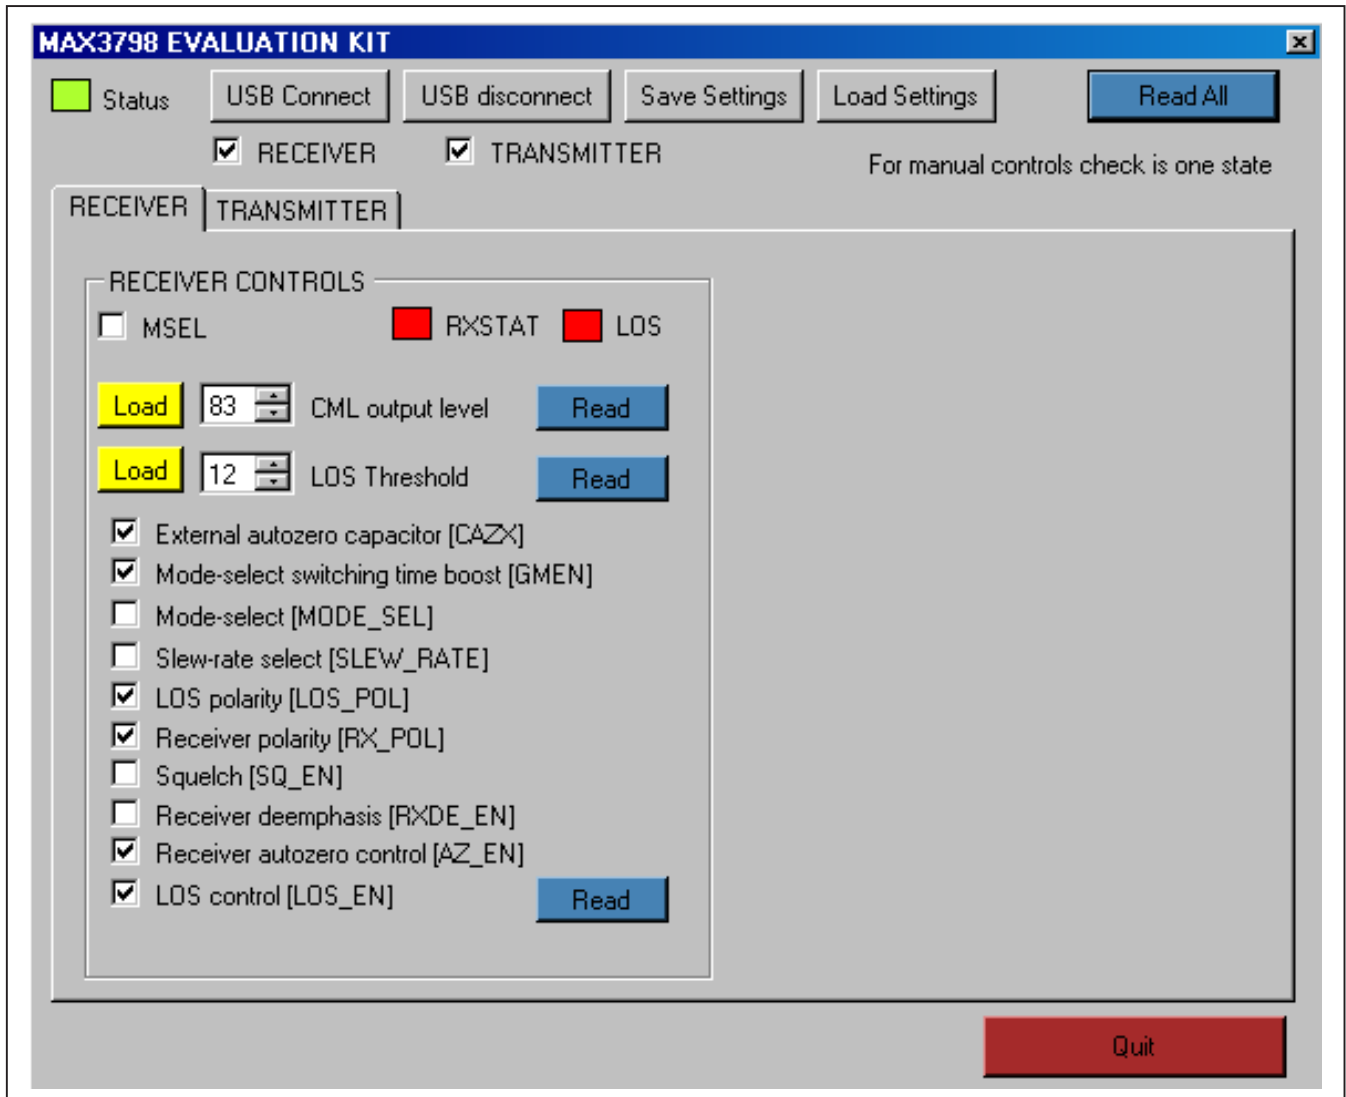
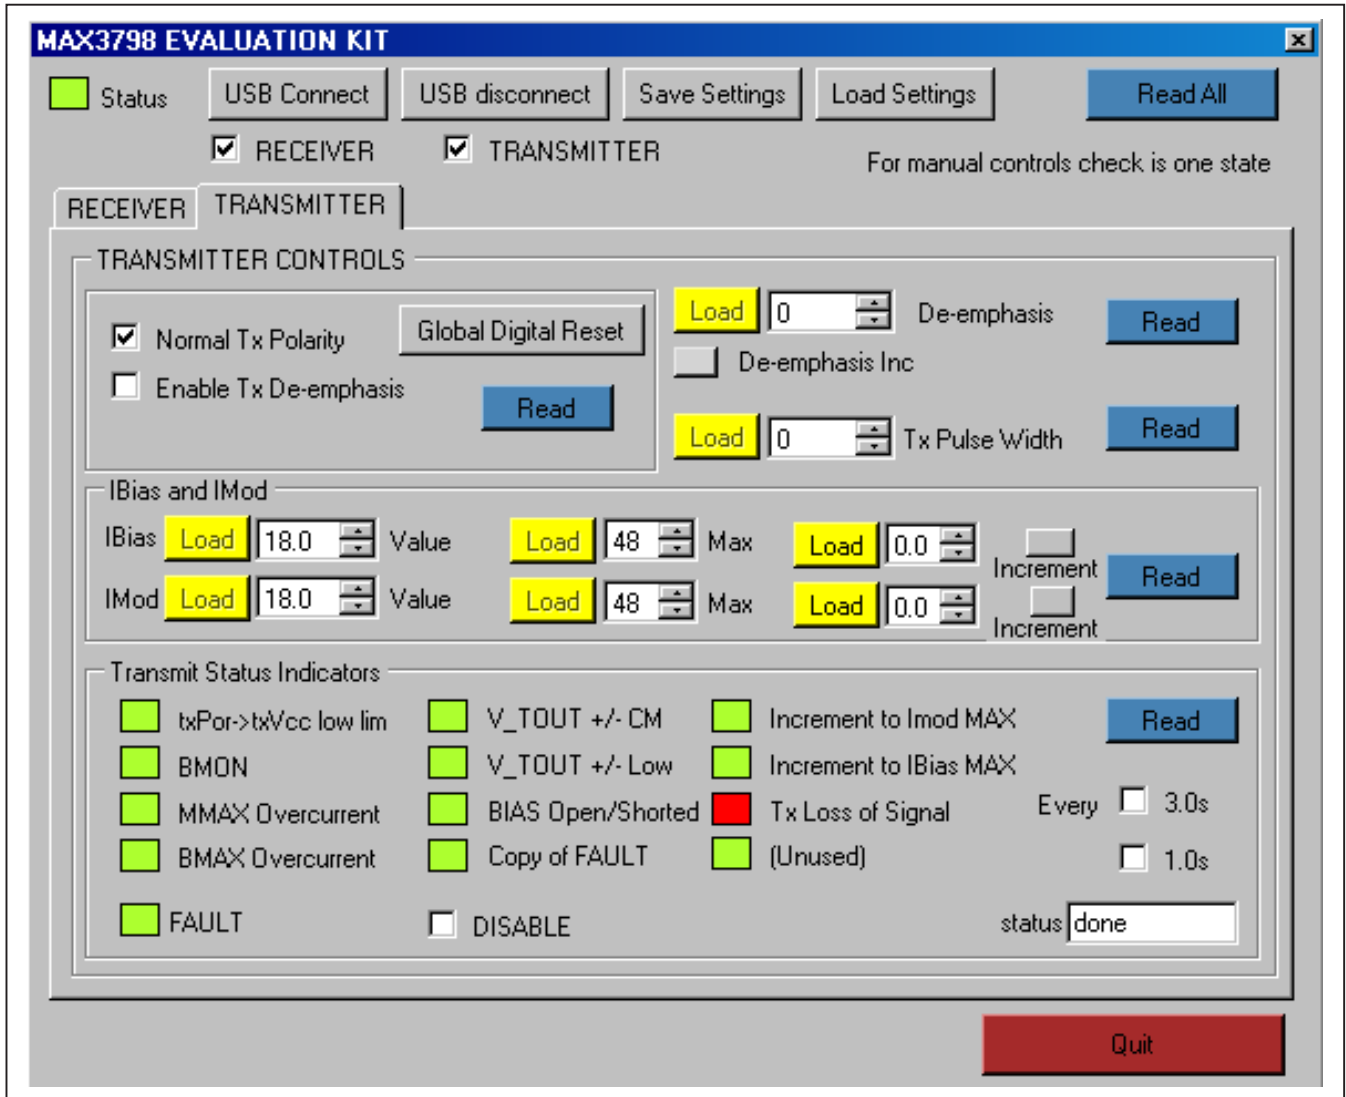

Figure 1. MAX3798 EV Kit Software (Receiver)
Figure 2. MAX3798 EV Kit Software (Transmitter)
- 8) The receiver (Figure 1) and transmitter (Figure 2) are controlled on separate tabs. The registers contain a default setting and can be read using the **Read All** button. For detailed register functions, refer to the MAX3798 IC data sheet.